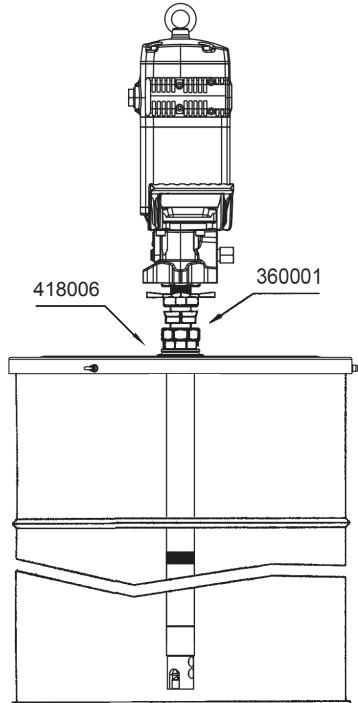

Fig. 2
- b. Mounting with cover (418006 for 185 kg drum) and bung adaptor 360001. Fasten the cover onto the drum and screw the nut of the bung adaptor securely into the 2" bung opening of the cover. Insert the pump through the nut and adjust it with the star nut to the desired height (see figure 2).